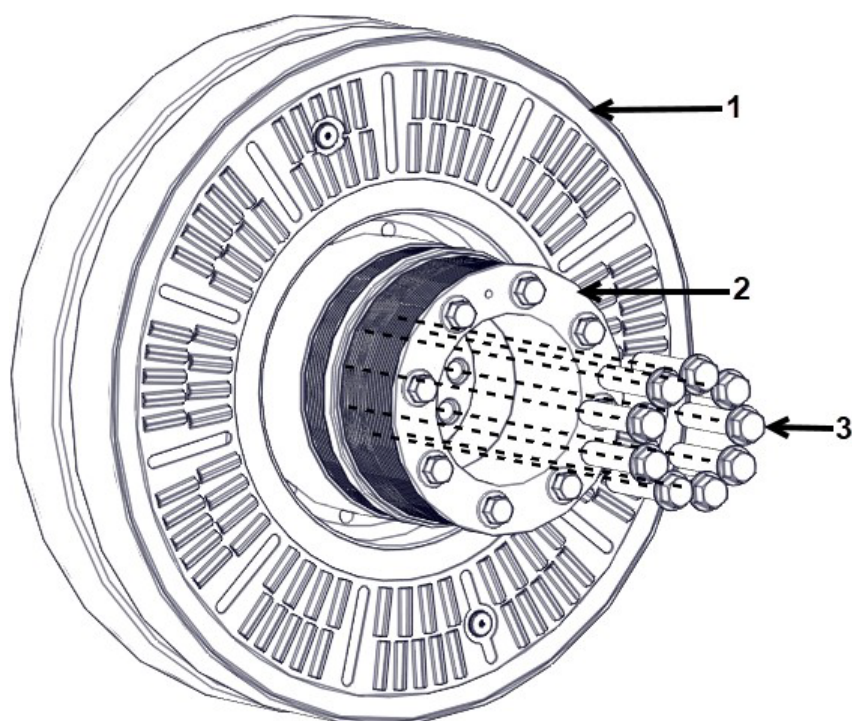

Figure 22. Crankshaft Adapter Assembly
2. Remove the nine bolts (Figure 22, Item 3) from the center of the adapter.
3. Remove the crankshaft adapter (Figure 22, Item 1).
1. Hoist the adapter (Figure 22, Item 1) on the front of the cylinder block and align the adapter accordingly.
2. Insert and torque down the nine bolts (Figure 22, Item 3).
3. Place both the serpentine and left-hand belt onto the crankshaft pulley (Figure 22, Item 2).